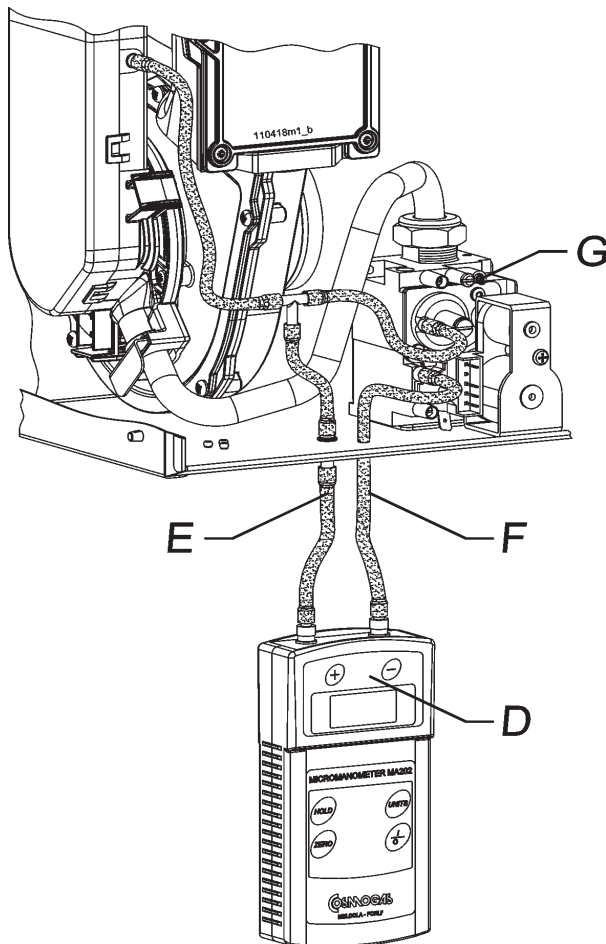

Figure 28 - Control of comburent air pressure
- insert a pipe "F" going from the pressure gauge to the pressure connection "C" passing through the opening of cap "B" (as per figure 28);
- the connection shall be made as per figure 28, by meticulously observing the pressure polarity displayed on the pressure gauge;